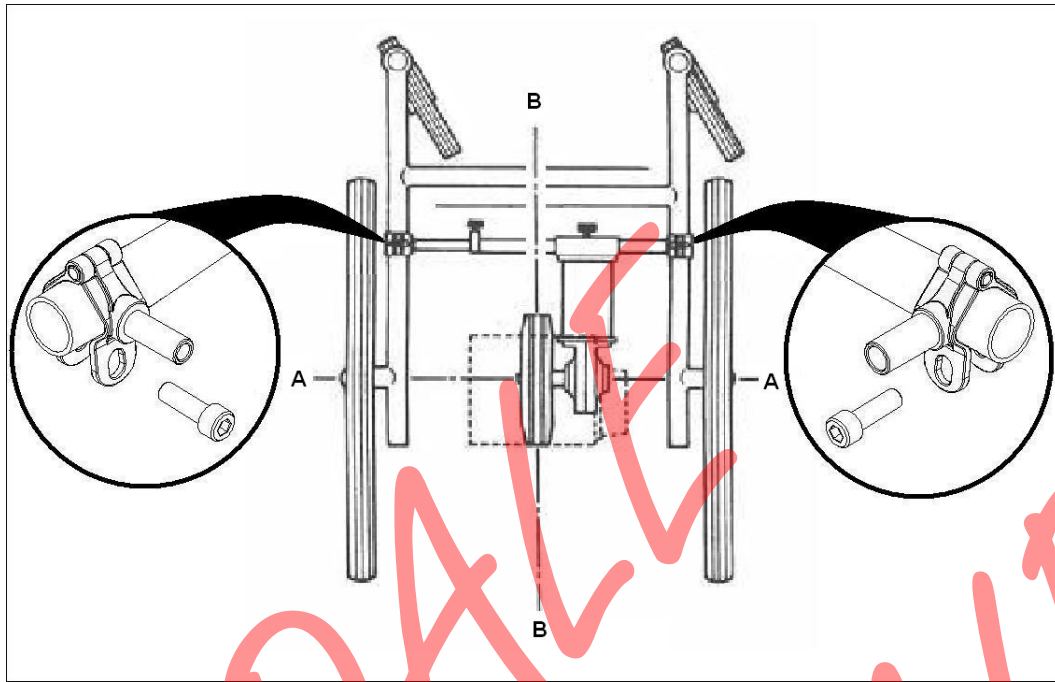
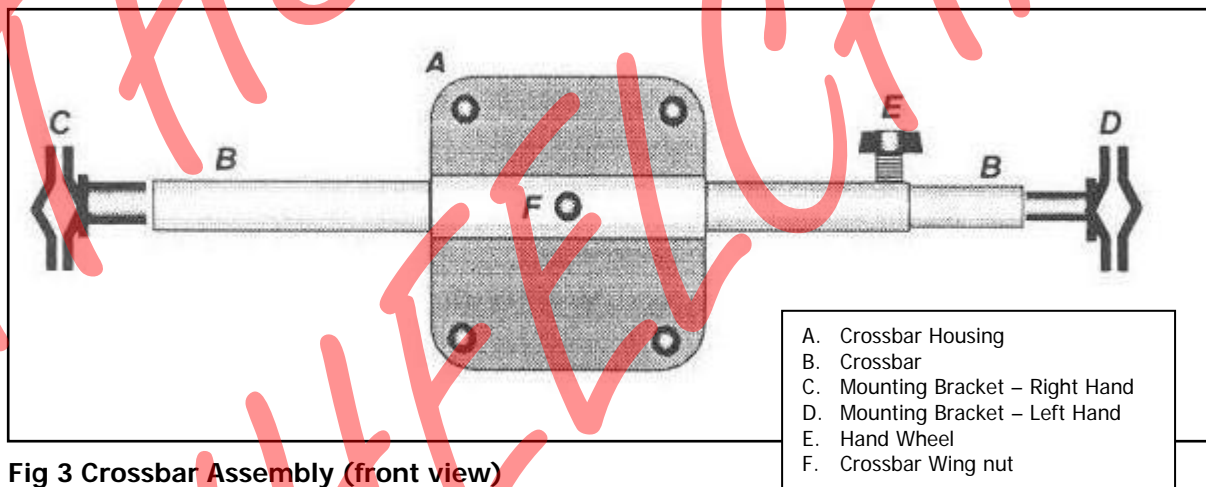

Fig 2 Nithdale Wheelchairs Powerpack Fitting and Bracket Location Diagram
Fig 3 Crossbar Assembly (front view)
- Take the two mounting brackets and you will see that one has a larger diameter shaft than the other (Fig 3 C & D). Fit the larger diameter right hand mounting bracket to the bottom of the wheelchair frame on the right hand side, as viewed from the rear of the chair. Fit the smaller diameter left hand bracket in a corresponding position on the left hand side of the chair. Fig 2 demonstrates the approximate positioning of the mounting brackets on the chair (when viewed from above). Do not tighten at this stage.